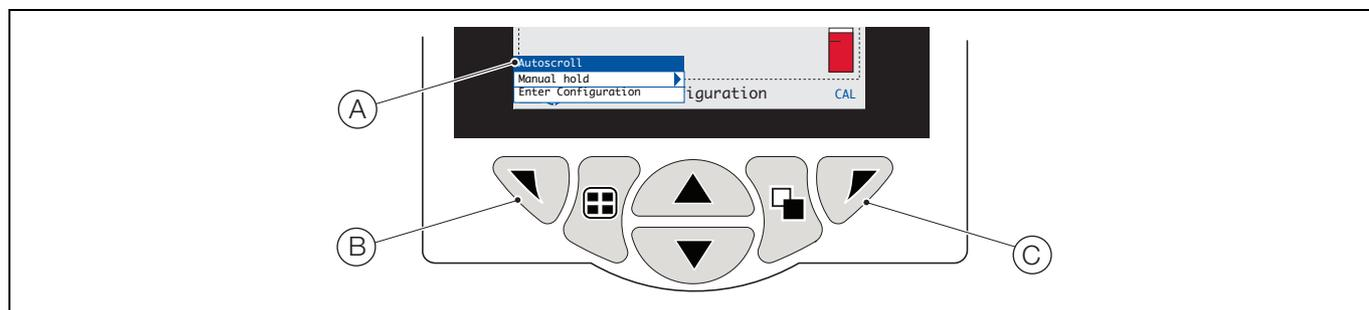

Fig. 6.2 Operator menus
The transmitter has 4 modes of operation – all modes are accessed from the *Operator* menu – see Fig. 6.2:
Referring to Fig. 6.2, *Operator* menus (A) are accessed from any *Operating*, *View* or *Log* page by pressing the ∇ key (B).
When multiple wet-sections are fitted and, if *Autoscroll* is selected from the *Operator Menu* (see Fig. 6.2, page 30), the display scrolls through each available *Operator Page* consecutively.